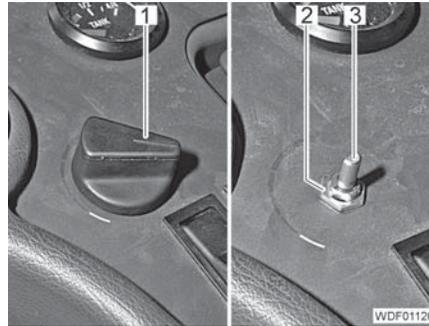
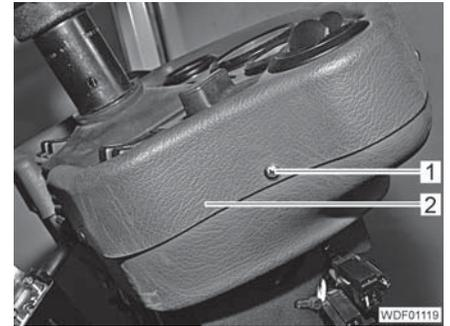

Fig. 453 Knob of the temperature sensor
Fig. 454 Instrument panel attachment
- Pull off the knob (Fig. 453,1) of the temperature sensor.
- Unscrew the nut (Fig. 453,2).
- Unscrew the 6 screws (Fig. 454,1).
- Carefully lift up the instrument panel (Fig. 454,2) until the engine-hour counter is accessible.
- Carefully position the instrument panel (Fig. 454,2) so that the operating part (Fig. 453,3) protrudes through the hole.
- Screw in and tighten the 6 screws (Fig. 454,1).
- Screw the nut (Fig. 453,2) onto the operating part (Fig. 453,3) and tighten it hand-tight.
- Fit the knob (Fig. 453,1) onto the operating part.